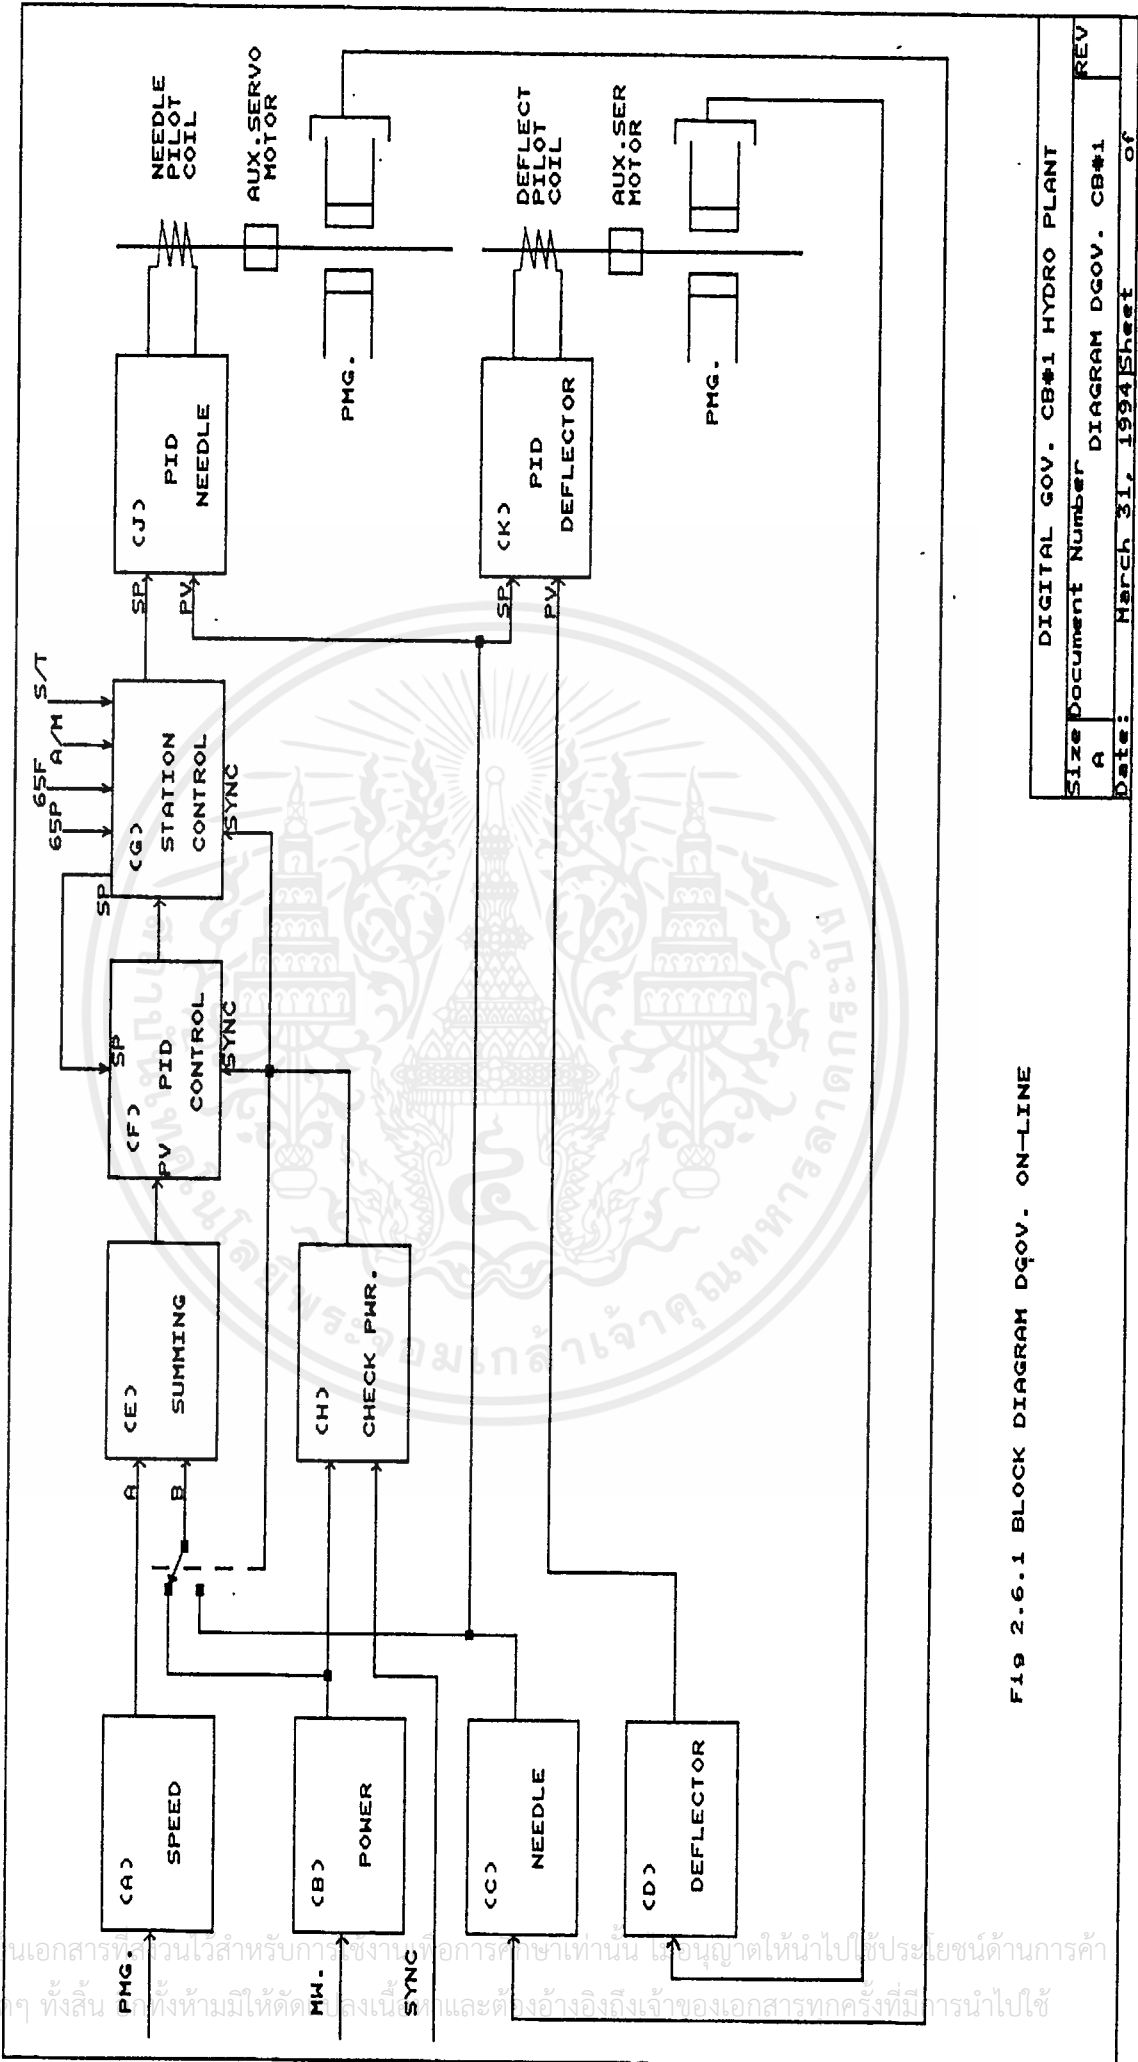

FIG 2.6.1 BLOCK DIAGRAM DGOV. ON-LINE
- (1) FIG 2.6.1 BLOCK DIAGRAM DGOV. ON-LINE